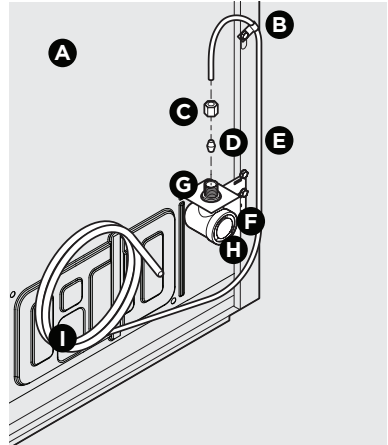
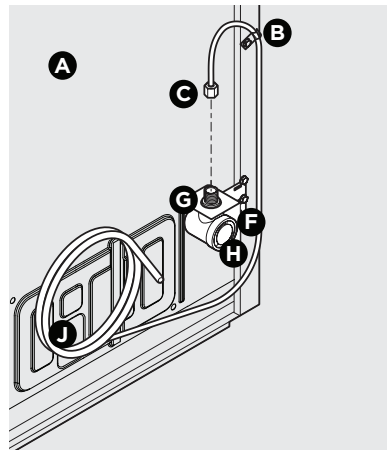

Figure 1
Figure 2
4. If you use **copper tubing** - Slide the brass compression nut and then the ferrule (sleeve) onto the water supply line. Push the water supply line into the water valve inlet as far as it will go ( $\frac{1}{4}$ "/6.4 mm). Slide the ferrule (sleeve) into the valve inlet and finger tighten the compression nut onto the valve. Tighten another half turn with a wrench; DO NOT overtighten. See Figure 1.
If you use **braided flexible stainless steel tubing** - The nut is already assembled on the tubing. Slide the nut onto the valve inlet and finger tighten the nut onto the valve. Tighten another half turn with a wrench; DO NOT overtighten. See Figure 2.
| B | Steel Clamp (Fig. 1: $\frac{1}{4}$ "; Fig. 2: $\frac{1}{2}$ " )         |